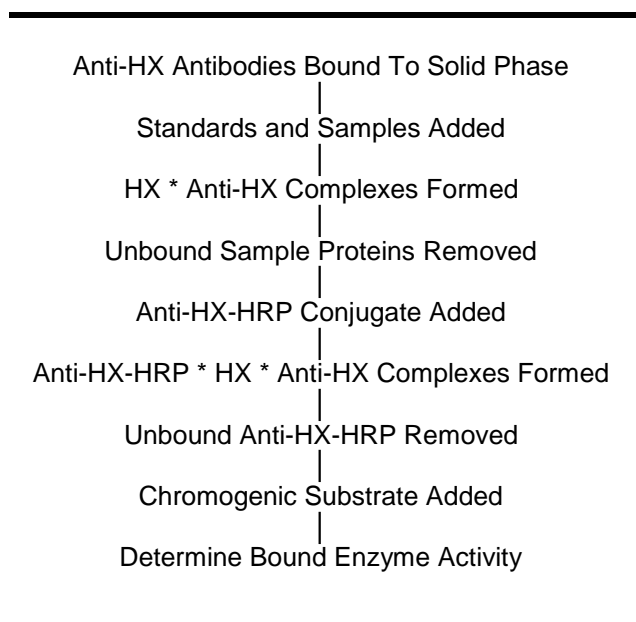

Figure 1
The principle of the double antibody sandwich ELISA is represented in Figure 1. In this assay the Hemopexin (HX) present in samples reacts with the anti-HX antibodies, which have been adsorbed to the surface of polystyrene microtitre wells. After the removal of unbound proteins by washing, anti-HX antibodies conjugated with horseradish peroxidase (HRP) are added. These enzyme-labeled antibodies form complexes with the previously bound HX. Following another washing step, the enzyme bound to the immunosorbent is assayed by the addition of a chromogenic substrate, 3,3',5,5'-tetramethylbenzidine (TMB). The quantity of bound enzyme varies directly with the concentration of HX in the sample tested; thus, the absorbance, at 450 nm, is a measure of the concentration of HX in the test sample. The quantity of HX in the test sample can be interpolated from the standard curve constructed from the standards, and corrected for sample dilution.